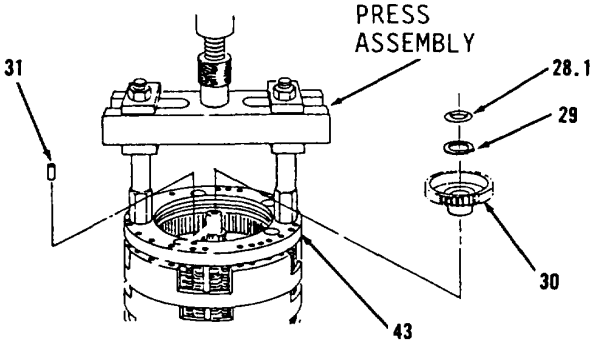

Figure 14-47.
- 35. Install press assembly and compress to install gear (30), snap ring (29) and seal ring (28.1, Figure 14-47).
- 36. Install two dowels (31) in housing (43).